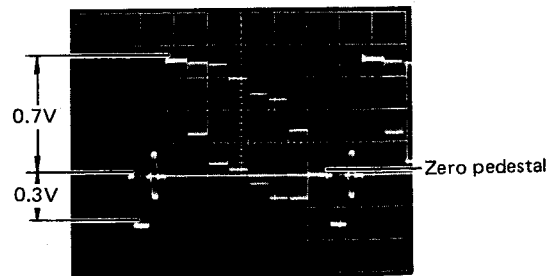

Fig. 5-3-4
- o Observe the waveform monitor, or connect the oscilloscope to the terminated VIDEO OUT signal and trigger the oscilloscope at H rate (Use TP4 (HD), Deflection board.).
- o Adjust VR1 (BAR PEDESTAL) so that the pedestal level of color bar signal is 0V. (Fig. 5-3-4)
- o Adjust VR4 (Y GAIN) so that the Y signal level of color bar signal is 0.7V. (Fig. 5-3-4)